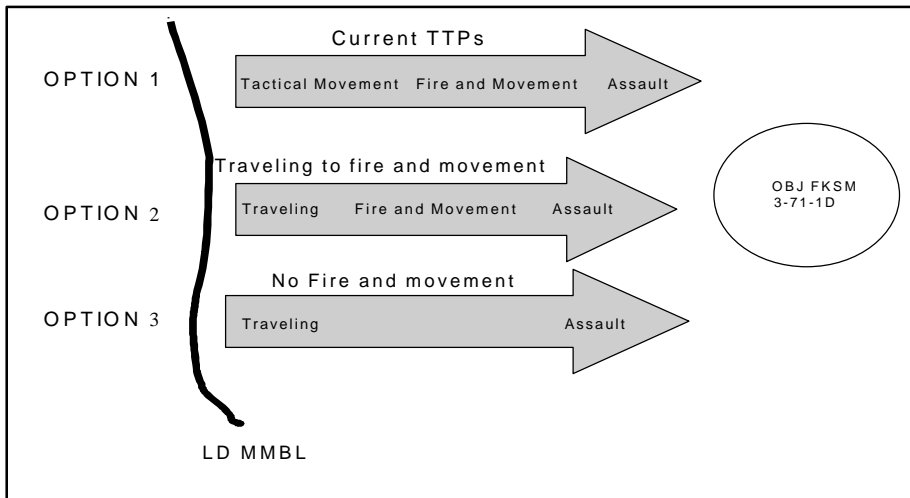

Figure 1. Offensive options in constructive testing.
- In the offense, three types of offensive TTP options (illustrated in Figure 1):